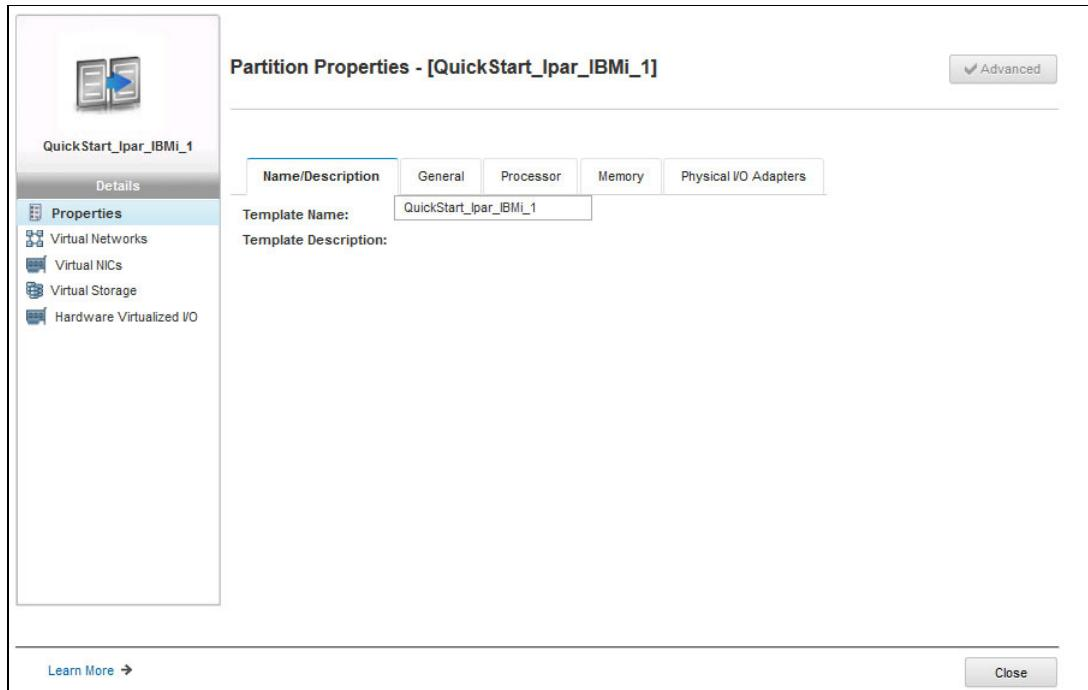

Figure 2-67 View template: Properties - Name
- Click **View** to display the initial template window, where you can navigate to the required option and view its properties (Figure 2-67). When you finish with this view, click **Close**.